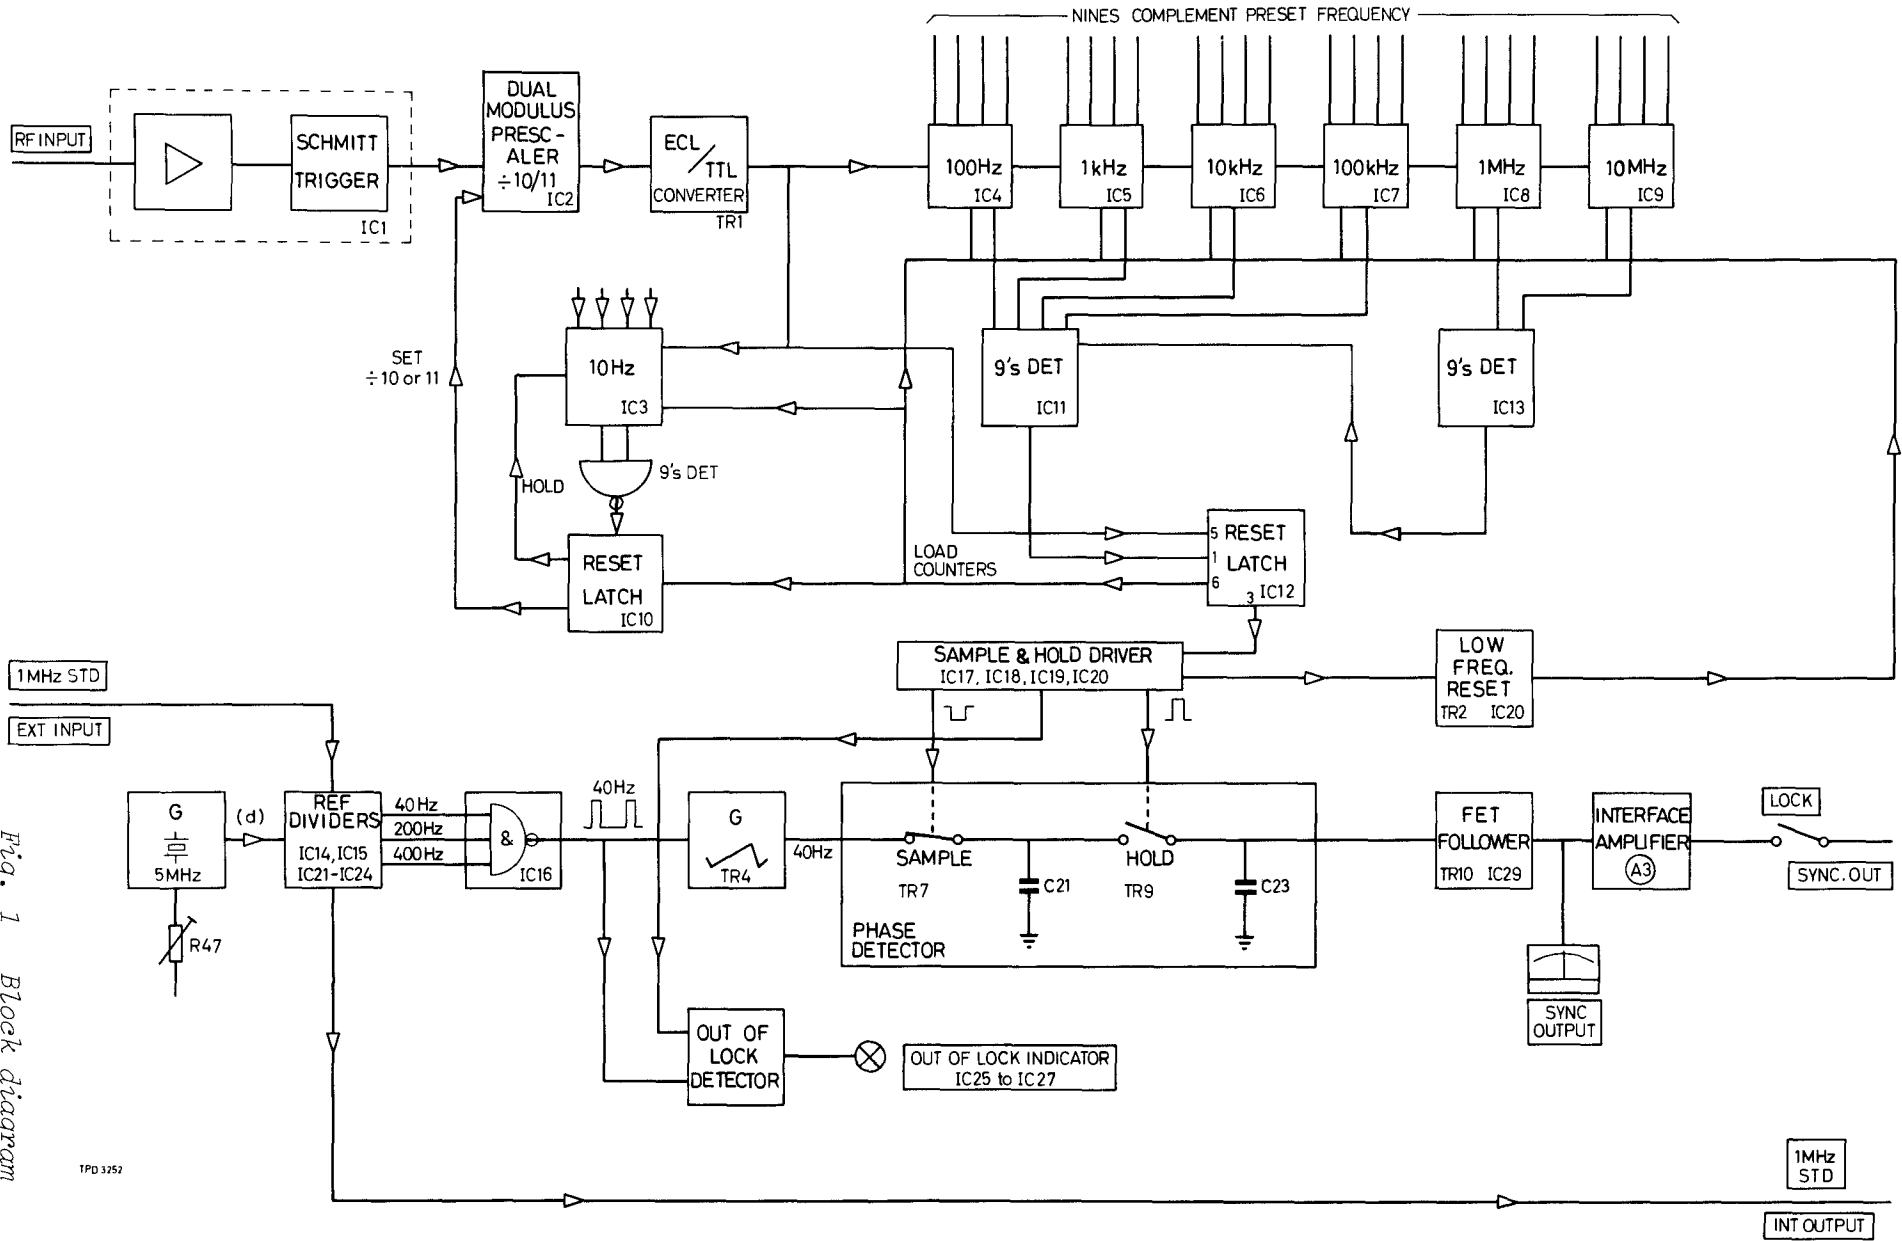

Fig. 1 Block diagram
1. The following description should be read in conjunction with the block diagram, Fig. 1, and the circuit diagrams in Chap. 7. The circuit is summarized in paras. 2 to 12 and the individual boards described in paras. 13 to 46.